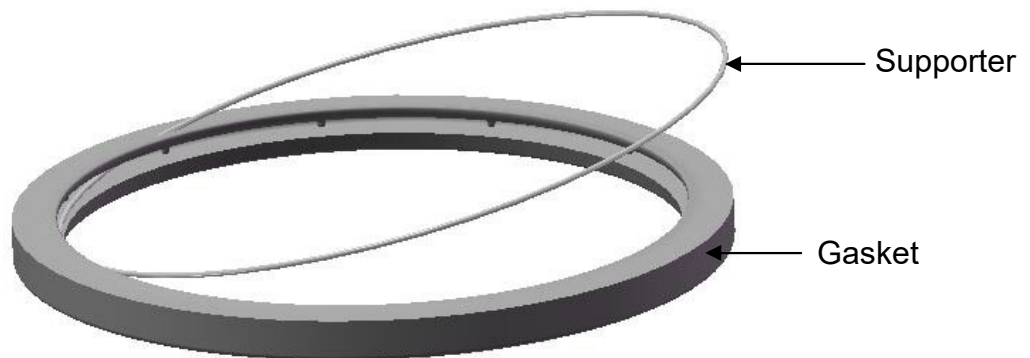

Figure 181
1. Remove the old gasket from the door, and then take out the gasket o-ring from the gasket. Install the gasket o-ring to the new gasket as shown in Figure 181.